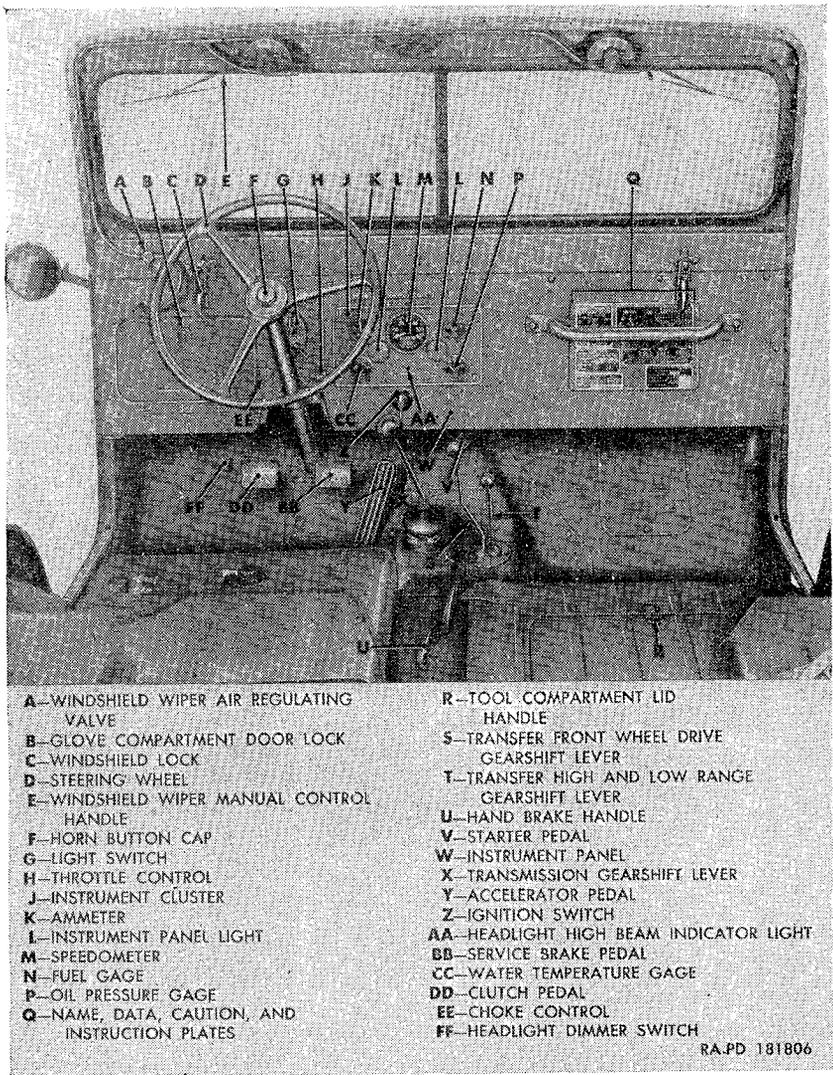
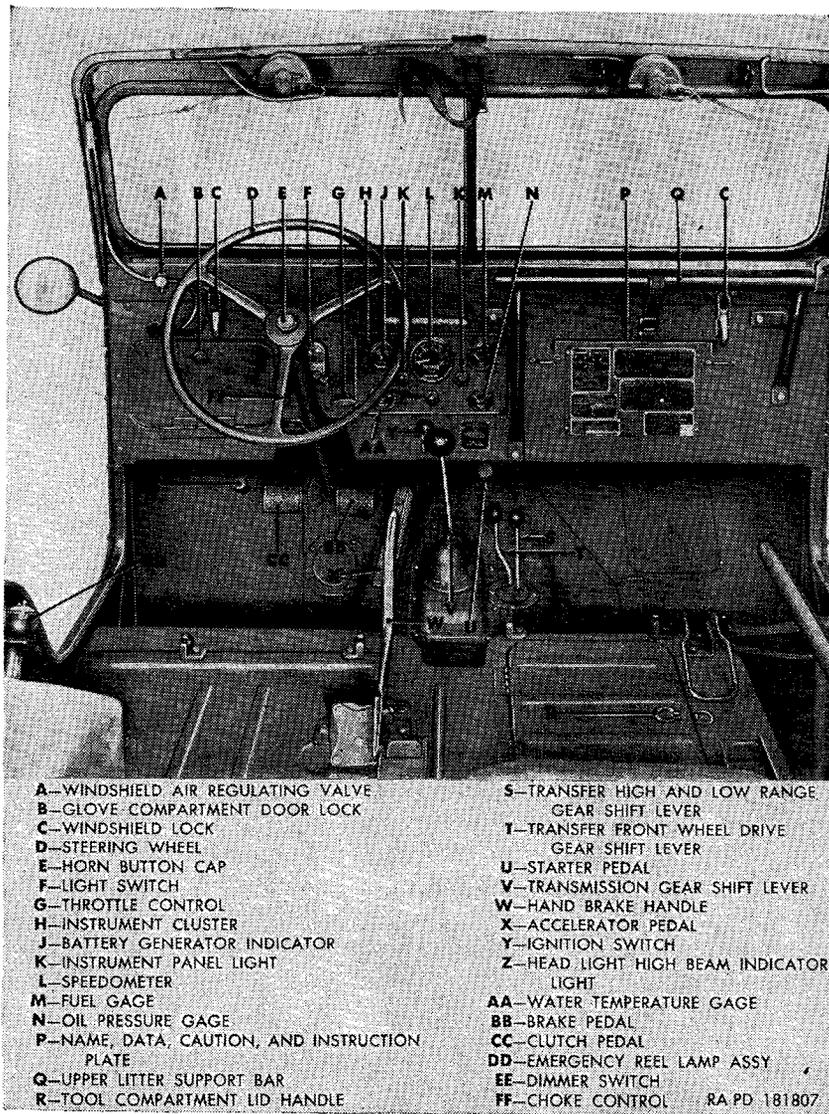
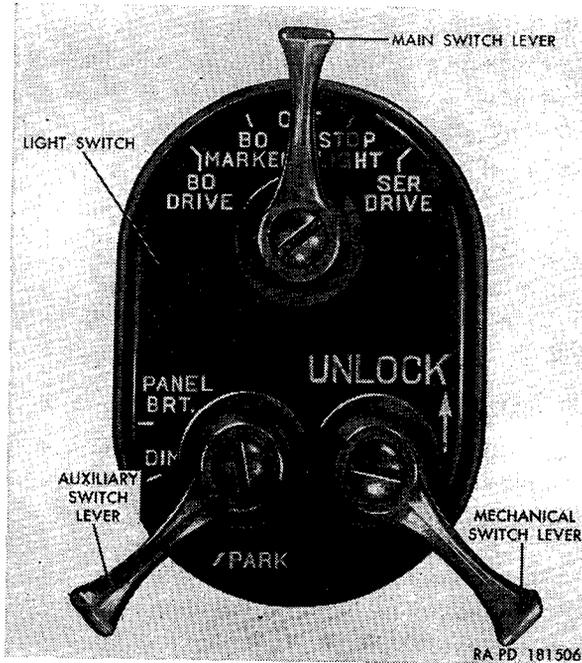

Figure 11. Driver's compartment (M38A1)—rear view—seat removed.
Figure 12. Driver's compartment (M170)—rear view—seat removed.
Figure 15. Light switch—levers in off positions.
b. All pedal and hand lever controls, instruments, gages, and switches are grouped in the driver's compartment (figs. 11 and 13) and are readily accessible to the driver for the operation of the vehicle. The major graduations, letters, figures, and pointer tips on all instruments and gages grouped in the instrument cluster (J, fig. 11) are coated with luminous paint for visibility during night operation.
The steering wheel (D, fig. 11 and A, fig. 13), located on the left side of the driver's compartment, turns the front wheels and thereby steers the vehicle. Turn the steering wheel clockwise for a right turn and counterclockwise for a left turn.
The service brake pedal (BB, fig. 11 and N, fig. 13) located on the upper-front floor pan cover to the right of the steering gear jacket and is accessible to the driver's right foot. This pedal controls the hydraulic service brakes on all four wheels. Depress the service brake pedal to apply the brakes. The degree of brake application is dependent upon the amount of physical effort applied to the brake pedal. Release the pedal to release the brakes.
The clutch pedal (DD, fig. 11 and P, fig. 13) is located on the upper-front floor pan cover at the left of the steering gear jacket and is accessible to the driver's left foot. This pedal functions to engage and disengage the clutch with and from the engine flywheel thereby connecting and disconnecting the transmission with and from the engine. Depress the pedal to disengage the clutch. Release the pedal to engage the clutch.
The accelerator pedal (Y, fig. 11 and K, fig. 13) located on the lower-front floor pan cover to the right of the brake pedal, is connected to the carburetor throttle controls and governs the engine speed from idling to full speed in varying degrees dependent upon foot pressure applied. Depress the pedal to increase engine speed. Release the pedal to decrease engine speed. The pedal, when released, will automatically return the engine to the set idling speed.
The starter pedal (V, fig. 11), attached to the upper-front floor pan cover at the right of the accelerator pedal, is a foot-operated control which actuates the starter switch on the starter, causing the starter to become engaged with the engine flywheel, thus cranking the engine. Depress the starter pedal to crank the engine. The pedal, when released, returns automatically to the normal position.
The transmission gearshift lever (X, fig. 11 and R, fig. 13) is located in the transmission control lever cover and extends upward into the driver's compartment. This manually operated lever, accessible to the driver's right hand, may be shifted from neutral position to place the transmission in first, second, third or reverse speeds as indicated on the shifting instruction plate (fig. 6). Operation of the transmission gearshift lever is described in paragraphs 43 and 45.
a. Front Wheel Drive. The transfer front wheel drive gearshift lever (S, fig. 11 and L, fig. 13), located in the driver's compartment immediately to the right of the transmission gearshift lever, controls the front axle drive selection. Shifting positions for this lever are illustrated on the shifting instruction plate (fig. 6). Operation of the lever is covered in paragraphs 43 and 46.
b. High and Low Range. The transfer high and low range gearshift lever (T, fig. 11 and M, fig. 13), located in the driver's compartment at the right of the transfer front wheel drive gearshift lever, provides for manual selection of auxiliary speed ranges in the transfer. This lever may be positioned in any one of three positions (low range, neutral range, and high range) depending upon operating conditions.
The hand brake handle (U, fig. 11 and W, fig. 12), located at the right of the driver's seat, actuates the mechanical hand brake mechanism mounted on the transfer. To set the hand brake, pull on the hand brake handle. To release the hand brake, press the release lever on the underside of the handle and permit handle to return to the released position. A ratchet mechanism within the handle will hold the hand brake applied until released by pressing the release lever.
The throttle control (H, fig. 11 and F, fig. 13), located at the lower edge of the instrument panel at the right of the steering gear jacket, provides a hand-operated control of engine speeds. It is primarily used to set the carburetor throttle at the desired starting and warmup speed. To accelerate engine, pull throttle control out to desired position. To return engine to its set idling speed, turn control 90° or more to the right or left and push control in against instrument panel. A ratchet arrangement is incorporated in the control to hold it in the desired pulled-out position. Control must be positioned so the imprinted THROTTLE is right side up before ratchet will engage.
The choke control (EE, fig. 11) is located at the lower edge of the instrument panel at the left of the steering gear jacket. This control is connected to the lever of the carburetor choke valve shaft with lever assembly which closes in proportion to the degree the choke control is pulled out. The control is used when starting and operating a cold engine. Pull the control out from instrument panel as desired when starting a cold engine. Push control all the way in against instrument panel after engine is started and operating correctly.
The lever-type ignition switch (Z, fig. 11 and H, fig. 13) is mounted on the instrument panel, directly below the instrument cluster. To turn the ignition circuit on, turn the lower end of the switch lever to the left (counterclockwise) until opposite end of lever is alined with the ON position imprinted on the ignition switch instruction plate (fig. 9). When ignition circuit is on, all the electrical gages in the instrument cluster will become energized, permitting reading of their values. To turn the ignition circuit off, turn lower end of switch lever to the right (clockwise) until opposite end of lever is alined with the OFF position imprinted on instruction plate.
(fig. 15)
The headlight dimmer switch (FF, fig. 11) is located to the left of the clutch pedal. This foot-operated switch, accessible to the driver's left foot, is used to control the high and low beams of the headlights. With bright lights on (high beam), depress the dimmer switch to change to low beam and dim lights. To switch to bright lights, de-
press the dimmer switch. The headlight high beam indicator light (AA, fig. 11) indicates when high beam or bright lights are on.
Two windshield locks (C, figs. 11 and 13) are provided on the windshield assembly to hold it in the vertical position. To disengage windshield locks from the windshield locking clamp catches on the instrument panel, pull locks out at the bottoms. To engage windshield locks, position locks over the windshield locking clamp catches and push bottoms of locks toward instrument panel. Lowering and raising of the windshield assembly is described in paragraph 254.
The glove compartment door lock (B, fig. 11 and D, fig. 13) is located on the top of the glove compartment door on the extreme left of the instrument panel. To open glove compartment door, press button in center of the lock and pull door open. To close the glove compartment door, swing the door up against instrument panel. The lock will automatically latch when door is closed.
The tool compartment is located under the front passenger seat on the right side of the driver's compartment and provides for vehicular tool stowage. To gain access to tool compartment, swing front passenger seat up and forward. To open tool compartment lid, turn the tool compartment lid handle (R, fig. 11) 90° and pull upward. To close tool compartment lid, lower lid making sure handle is turned 90° to clear flange of tool compartment, and lock the lid by turning handle 90° toward front of vehicle.
The windshield wiper air regulating valve (A, fig. 11 and B, fig. 13) is located on the windshield assembly at the left of the steering wheel. This valve controls the operation of the windshield wiper motors. To turn the motors on, turn the valve lever counterclockwise. To turn the motors off, turn the valve lever clockwise.
A windshield wiper manual control handle (E, fig. 11) is mounted on each windshield wiper motor for manual operation of the windshield wiper blade. To operate blade, move handle back and forth as necessary.
The horn button cap (F, fig. 11) is located in the center of the steering wheel. Depress cap to sound the horn. Release cap pressure to stop sounding of horn.
The ammeter (M38A1) (K, fig. 11) and the battery generator indicator (M170) (J, fig. 12) are located in the upper-left corner of the instrument cluster. The ammeter indicates the amount of current flowing to and from the batteries, depending upon whether the battery is being charged or discharged. The ammeter dial (M38A1) is calibrated to register from DIS to CHG, with zero at the midfront of the needle swing. The battery generator indicator (M170) is a combination voltmeter and ammeter. When the ignition switch is turned on, before the engine is started, the position of the needle indicates the voltage available in the battery: red, low voltage; yellow, normal voltage; and green, high voltage. After the engine is started, the indicator functions as an ammeter. The ammeter will generally show a charge when the engine is first started and continue to show a charge as engine speed is increased, depending upon the amount of electrical power being used. Abnormal readings (par. 86), when engine is operating at normal speed, indicates an inoperative generating system. If improper operation of generating system is indicated by ammeter, stop engine and investigate cause (par. 90a).
The fuel gage (N, fig. 11), located in the upper right corner of the instrument cluster, indicates the amount of fuel in the fuel tank. The gage dial is marked with E, $\frac{1}{4}$, $\frac{1}{2}$, $\frac{3}{4}$ and F. The fuel gage functions only when the ignition switch is on. If gage is inoperative, refer to paragraph 90b.
The oil pressure gage (P, fig. 11), located in the lower right corner of the instrument cluster, indicates the engine oil pressure when the engine is running.
The water temperature gage (CC, fig. 11) is located in the lower left corner of the instrument cluster. The gage dial is marked from 60° to 260° F. This gage, which is actuated by the engine water temperature sending unit mounted on the engine, indicates the engine coolant temperature. Normal operating temperature is 160° to 180° F. If temperature rises suddenly during warmup or normal operation, stop engine and investigate cause (par. 88). Temperature below 140° F., during normal operation indicates an inoperative cooling system. If temperature is below 140° F., stop engine and investigate cause (par. 88). For inoperative gage, refer to paragraph 90*c*.
Two instrument panel lights (L, fig. 11) are located on the instrument cluster below, and one to either side of the speedometer. These lights provide illumination for the instruments and gages during night operation. The auxiliary switch lever on the light switch (fig. 15) actuates these lights and permits them to be turned off, on dim, or on bright. Metal shields over the panel light lamps prevent reflection during night operation.
The headlight high beam indicator light (AA, fig. 11), located on the instrument cluster below the speedometer, indicates when the high beam of the headlights is on. This light will go out when headlights are returned to low beam by operation of the headlight dimmer switch (par. 25).
The speedometer (M, fig. 11), located in the center of the instrument cluster, indicates vehicle speeds in miles per hour and records the total mileage (on odometer) the vehicle has been driven. The speedometer face is graduated from 0 to 60 in units of 1 mph and the odometer is calibrated from 0 to 99,999 miles.
The emergency reel lamp switch (fig. 109) is located in the lamp handle. Current is supplied to the switch only when one of the light switch levers (fig. 15) is in any position except OFF. The lamp unit is protected by an adjustable cover that can be partially closed for blackout use.